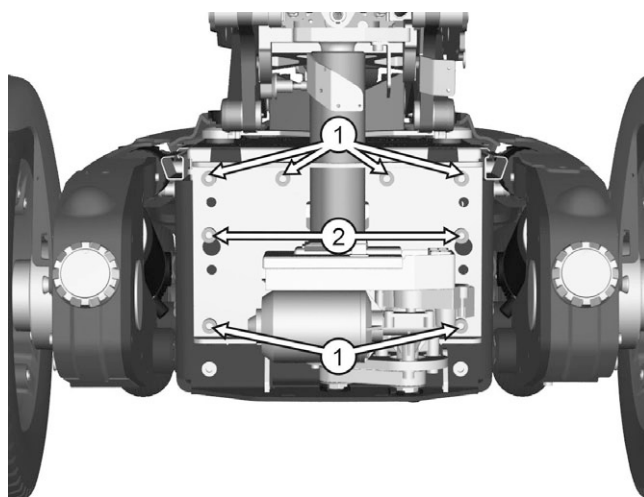

Figure 93. The AP Elevator is attached with eight screws at the front.
14. Remove the six screws (1) and loosen the two screws (2) holding the AP Elevator at the front. See fig. 93.